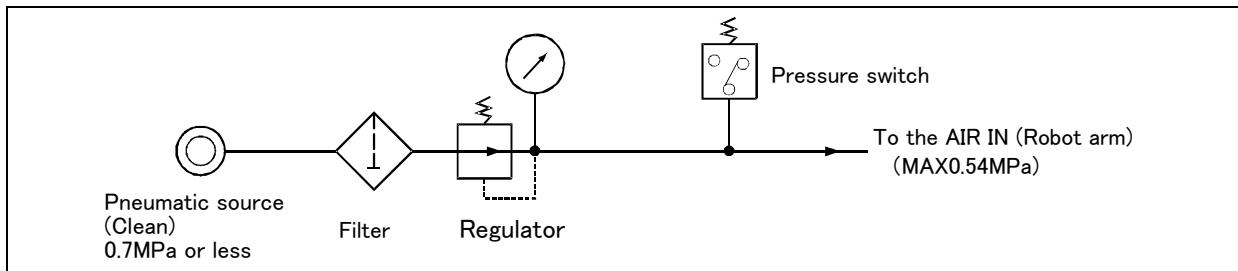
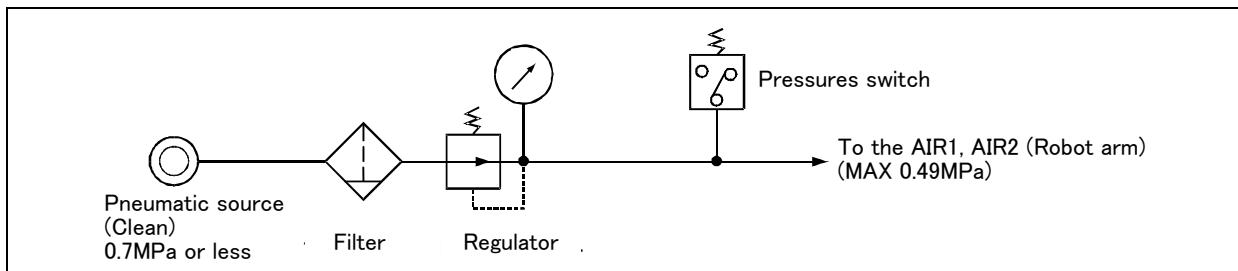

Fig.2-42 : Air supply circuit example for the hand (RV-4F/7F/13F series)
Fig.2-43 : Air supply circuit example for the hand (RV-35F/50F/70F series)
- (1) Make sure that a surge voltage protection circuit such as a diode is connected to the solenoid coil in parallel.
- (2) When the factory pneumatic pressure drops, as a result of the hand clamp strength weakening, there can be damage to the work. To prevent it, install a pressure switch to the source of the air as shown in Fig. 2-42 (RV-4F/7F/13F series), Fig. 2-43 (RV-35F/50F/70F series) and use the circuit described so that the robot stops when pressure drops. Use a hand with a spring-pressure clamp, or a mechanical lock-type hand, that can be used in cases where the pressure switch becomes damaged.
- (3) The optional hand and solenoid valve are of an oilless type. If they are used, don't use any lubricator.
- (4) Supply clean air to the vacuum generation valve when you use RV-4F/7F/13F series clean type robot.
- (5) If the air supply temperature (primary piping) used for the tool etc. is lower than ambient air temperature, the dew condensation may occur on the coupling or the hose surface.